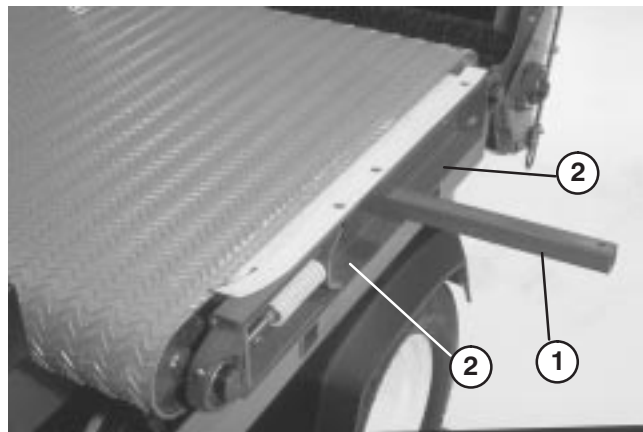

Figure 8
7. Remove (2) capscrews, washers and nut, on left side of machine, securing slider bed to frame (Fig. 8).
1. Insert a lift bar into hole on left side of machine and raise lift bar to tip slider bed (Fig. 8).